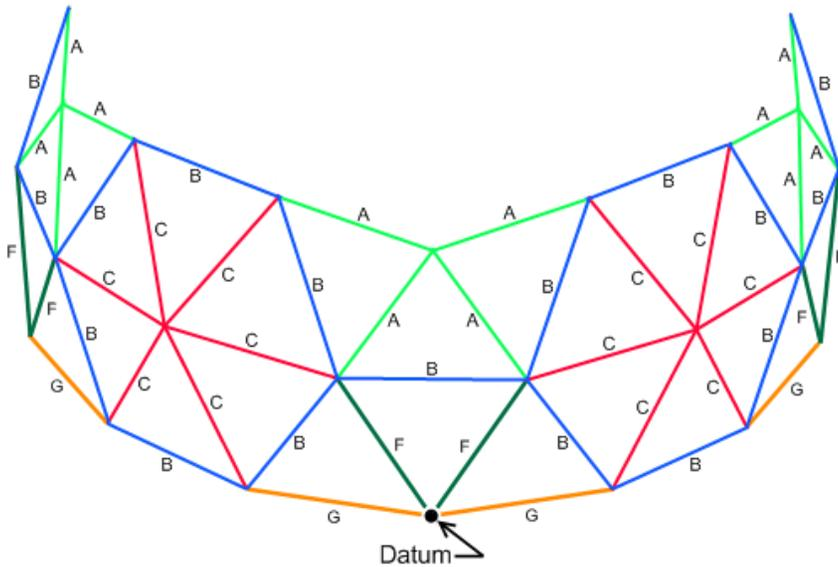

Figure 7 - Adding cross struts in A-B-A pattern.
- Next count out 10 A's and 5 B's. Starting above the Datum, use a repeating A – B – A pattern to connect the tips of the triangles formed in the previous step. See Figure 7.